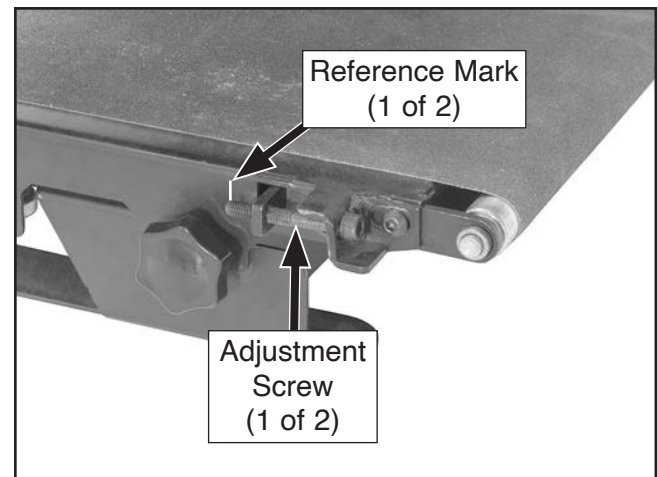

Figure 34. Reference mark location (left side shown).
1. Use pencil or tape to make reference mark on each side of conveyor table where end of adjustment screws are positioned (see **Figure 34**). These reference marks will provide a visual aid in keeping track of adjustments.